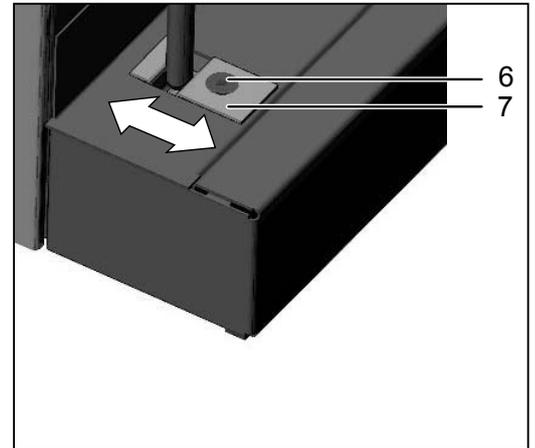

Fig. 37 Adjusting the locking plate
4. Apply lock washer varnish to the Allen set screw (5) and screw tight the set screw.
5. Tighten the mounting bolts (2) again.
The locking plate (7) can also be adjusted in the direction of the arrows after undoing the screws (6) (Fig. 37). Afterwards, screw the locking plate back firmly.